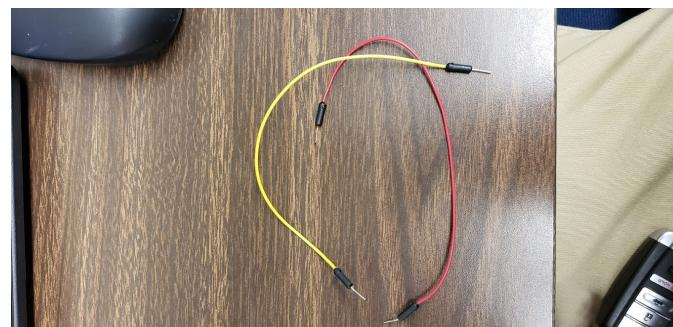

Figure 3. Two wires before being used in a circuit on the board.
- 17 wires as two are shown in *figure 3 below*